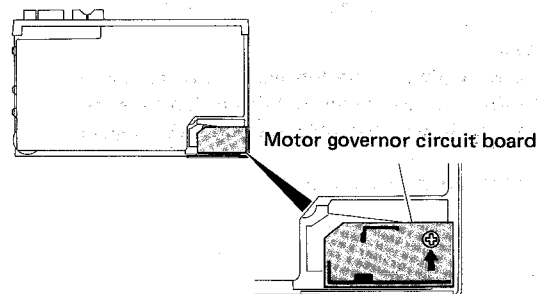

Fig. 12
- 2) Remove the screw to take out the motor governor circuit board. (See Figure 12.)